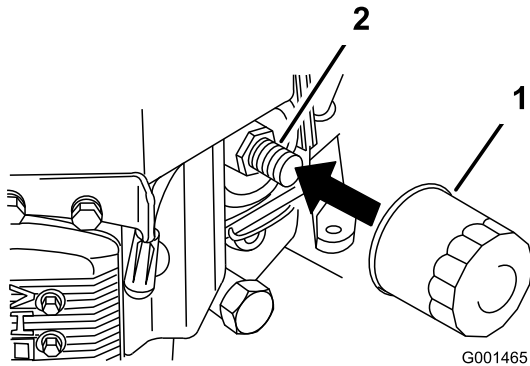

Figure 24
2. Remove the old filter (Figure 24).